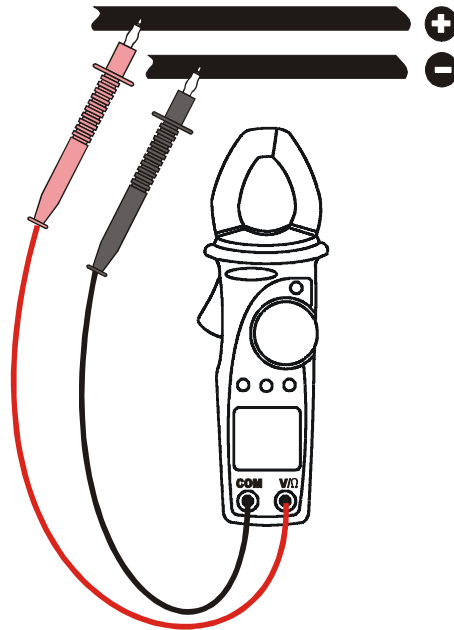

Fig. 5: Use of clamp for DC voltage measures
2. Insert the test leads into the jack, the red lead into V/Ω jack, and the black lead into the COM jack. Refer to Fig. 5.
5. Press R-H key you can select manually the measurement ranges in cyclic order. Press R-H key 2 seconds to return to the AUTOMATIC range selection.